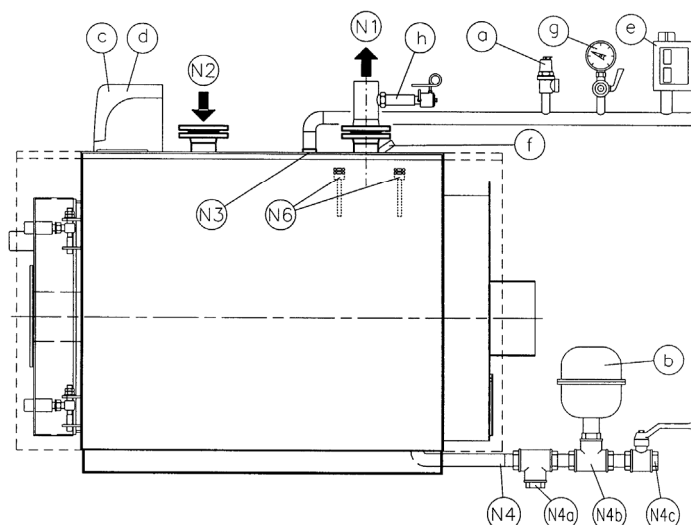

Fig. 1
3.2.1 INSTALATIE TERMICA PE APA CALDA CU VAS DE EXPANSIUNE INCHIS – Puterea la focar \leq 300.000 kcal/h - presiune 5 bar (Fig. 1)